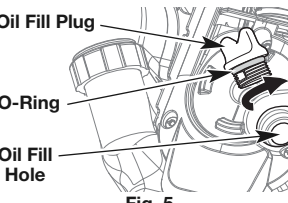

Fig. 5
4. Unscrew the oil fill plug (Fig. 5).
5. Pour the entire bottle into the oil fill hole (Fig. 5). **DO NOT** overfill. Refer to *Checking the Oil Level*.
**NOTE:** Make sure the O-ring is in place on the oil fill plug (Fig. 5).